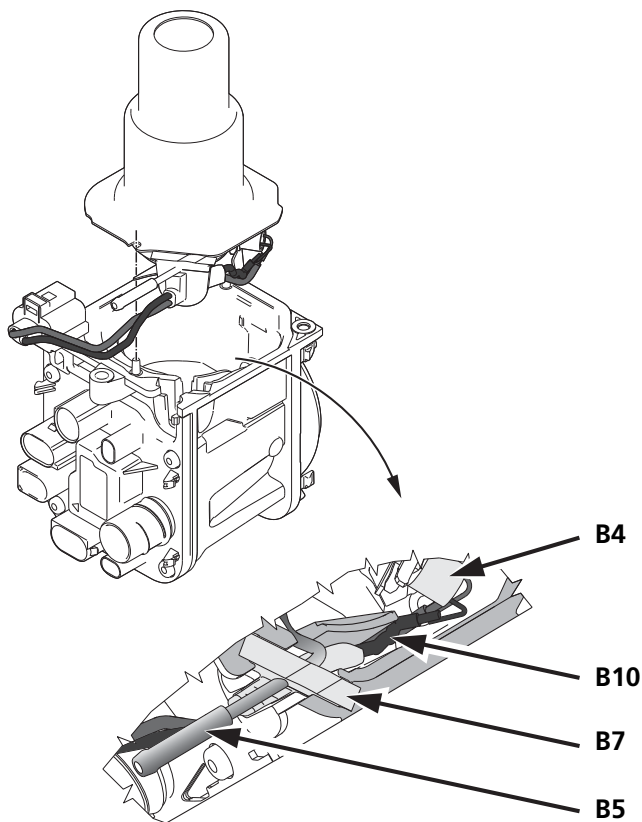

Fig. 903 Detailed illustration of cable routing for glow plug
1. Pre-position burner unit with grommet (B7) in fan housing (G1). During installation, make sure that the glow plug cable (B10) and grommet (B7) are mounted in the guide and groove provided on the fan housing (G1) (see Fig. 903). Press grommet (B7) into groove provided until it completely fill out the installation space.
When installing the burner unit, the cable must be routed so that it lies in the groove provided. Also see Section 9.2.2 and Fig. 903.